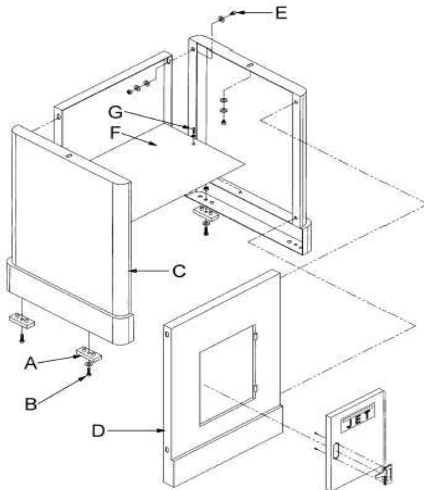

Fig 1
Attach the four rubber pads (A, Fig. 1) to the bottoms of the side panels with 4 screws, 4 flat washers and 4 hex nuts (E).